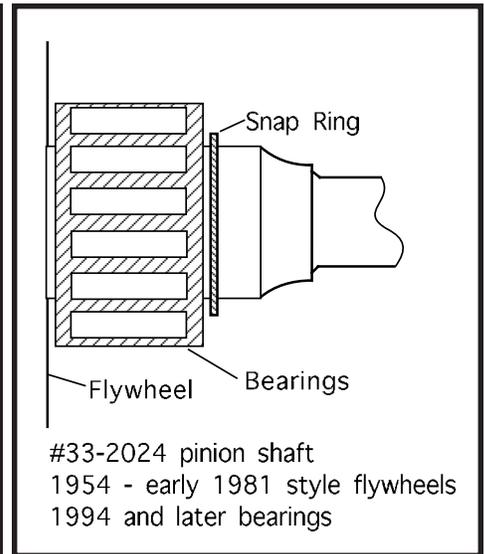

Figure 7
1. 1954 to Early 1981 stock flywheels or S&S SE or L style flywheels and #33-2024 - No thrust washers are normally used. Typical bearing arrangement - bearings against flywheel and snap ring. **See Figure 7.**